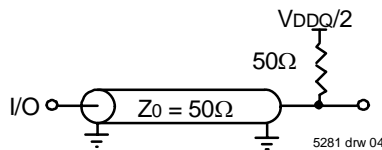

Figure 1. AC Test Load
| AC Test Load | See Figure 1 |
- These parameters are guaranteed with the AC load (Figure 1) by device characterization. They are not production tested.